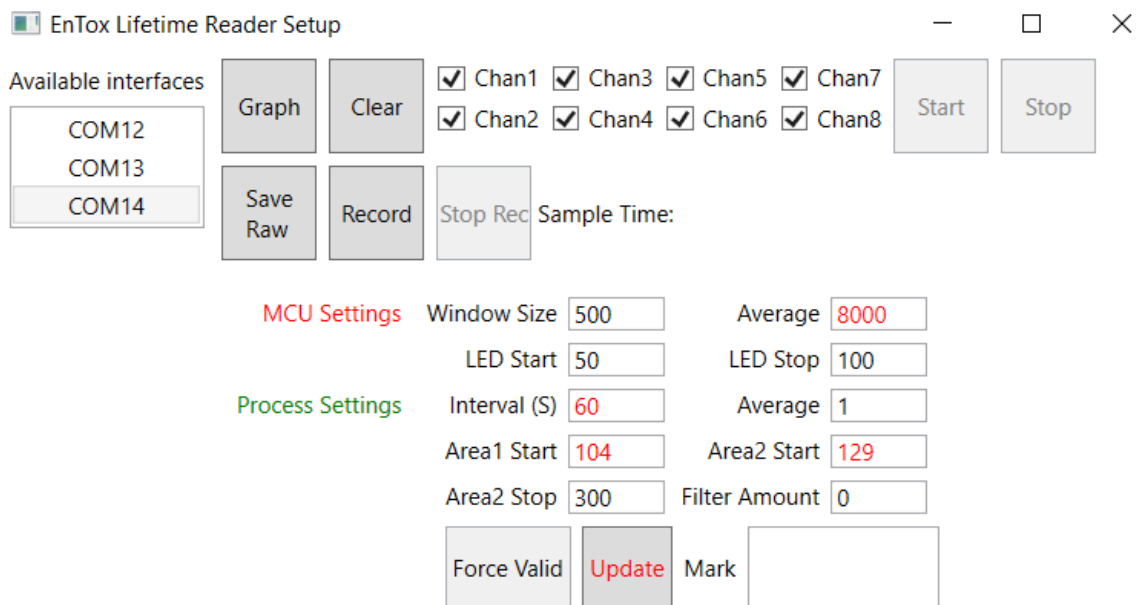

Fig. C7. GUI of the startup window of the O₂ Detection Software.
6. Once the program opens (Fig. C7), select the correct COM port. If needed, the COM port may be identified by unplugging and plugging the O₂ detector from the computer so that the port number is displayed. If the COM port is unplugged while the application is running, then the application must be closed and reopened before use.